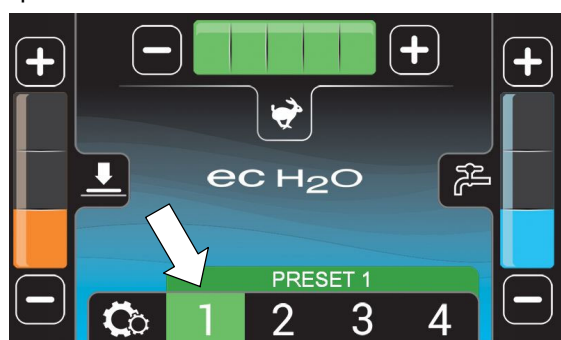

FIG. 55
8. Press the Zone Setting numbers for quick operation (Figure 55). The zone number will turn green when activated. Each Zone Setting number is factory configured with different solution flow rates, down pressures and maximum scrub speeds.